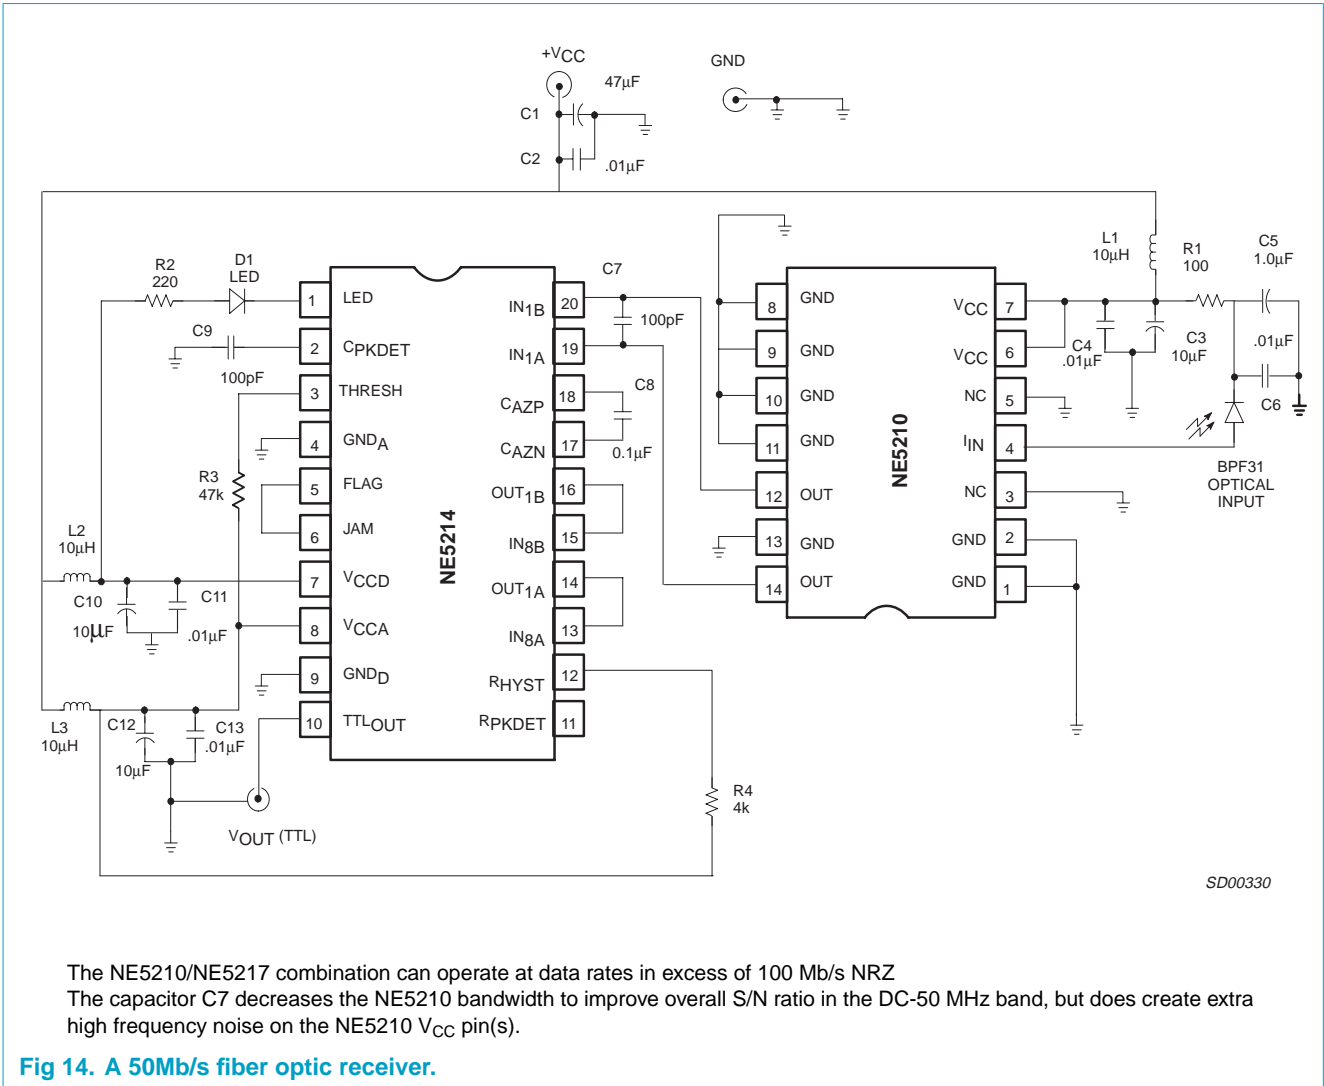

Fig 14. A 50Mb/s fiber optic receiver.
**Figure 14** depicts a 50 Mb/s TTL fiber-optic receiver using the BPF31, 850 nm LED, the SA5211 and the SA5214 post amplifier.